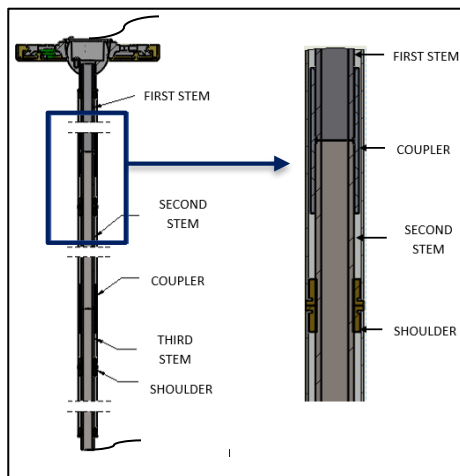

FIG. 9 – DETAIL SHOWING STEM INSTALLATION
3. Attach the STEMS based upon the length required using COUPLER and SHOULDER as shown in FIG. 9. Use thread locker on all stem connections and fully tighten stem sections together.
5. Feed the wires through the assembled CENTER STEM as shown in FIG. 9.